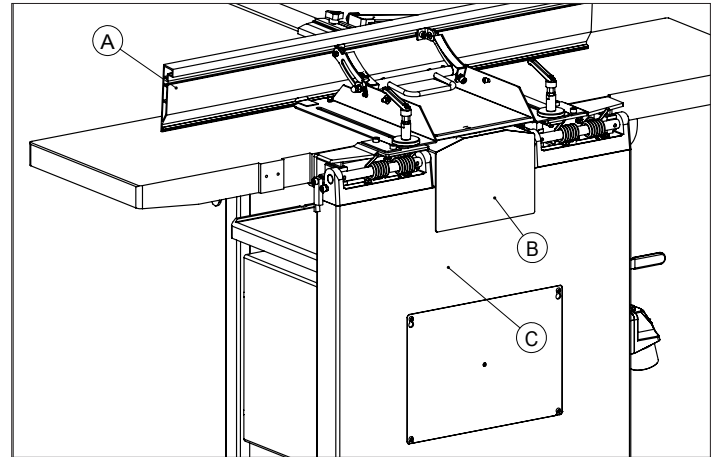

FIG. 21
2. Pull the fence (A, Fig.21) forward.
3. Take off the the side panel (B, Fig.21) and belt cover (C, Fig.21).